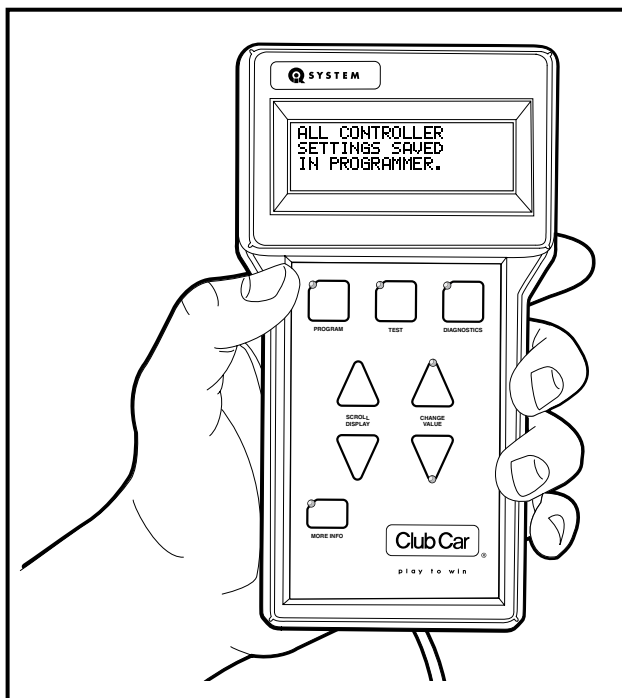

Figure 17 Controller Settings Saved in IQDM
9. When the IQDM is finished recording the speed controller settings, a confirmation message is displayed (**Figure 17**).